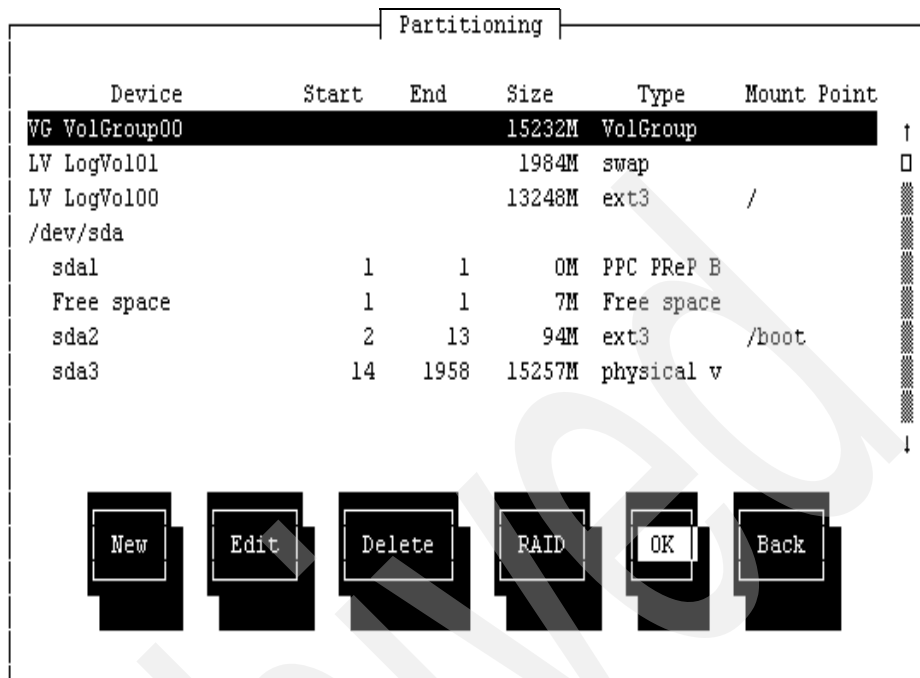

Figure 6-15 Review Partitioning panel
14. Review the allocated size for swap, ext3 file system, and /boot, as shown in Figure 6-15 on page 297. Press **OK** to confirm.